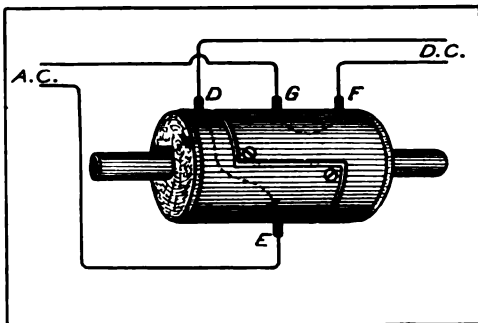

FIG. 1
As will be seen from Fig 1, which shows a top view of flashlight, the socket which holds a $1\frac{1}{2}$ volt tungsten miniature lamp bulb, is hinged at (D), so that when it is used as a night lamp, it may be adjusted to cast its light in any direction.
Referring to Fig. 1 (C) is a strip of $\frac{1}{8}$ -inch sheet brass about $\frac{1}{2}$ inch wide, bent as shown. This is bolted to the battery carbon (A) using its binding screw and nut (B). Another strip (E) of $\frac{1}{8}$ -inch brass is bent to a similar shape and hinged to piece (C)
of small rubber tubing (D) and over this two rubber or fibre washers (E). Between these is placed one end of the U-shaped piece (B) which is of light spring brass $\frac{1}{4}$ -inch wide and about two inches long. It must have a hole in the end large enough to go over the rubber tubing. It is connected to piece (G), Fig 1, by a short length of light flexible cord (not shown); and the binding nut (F) is clamped down on the whole. As will be seen from the cross section view, Fig. 2, of the push button and the foregoing, the binding-post is merely used as a support for the button, they being insulated from each other. Under the free end of (B) a small hole is cut in the paste-board cover of a battery and the zinc scraped clean. To use as a switch slip a strong rubber band around the cell and over (B) to hold it down.
The following described device I have found most convenient for changing direct current to alternating for experimental and testing purposes. A wooden cylinder two inches in diameter is fitted with a shaft as illustrated in Fig. 1. Upon this are placed